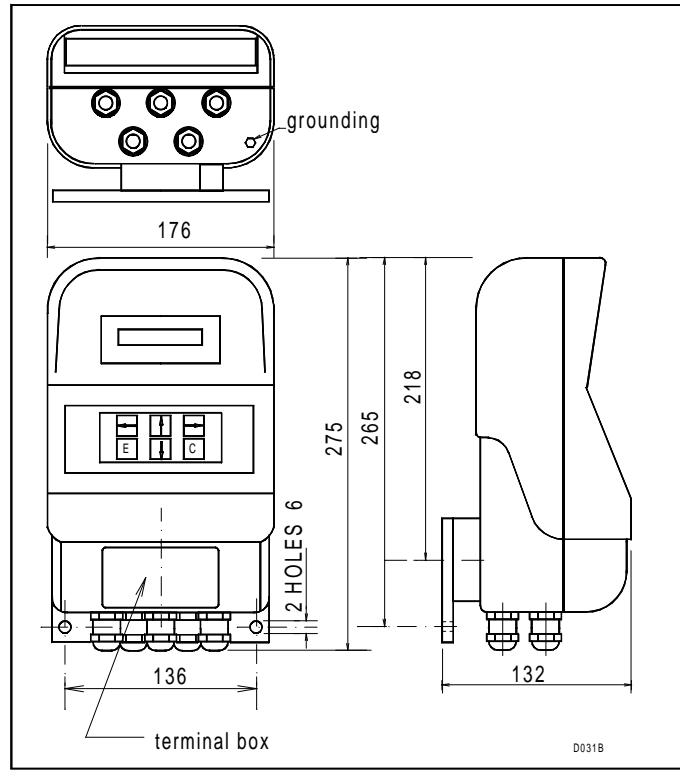

Fig. 2
12.1B2 - The converter can be installed on the wall or on the target rod. For this reason it comes supplied with a plate with two 6 mm holes on the rear (see Fig. 2).